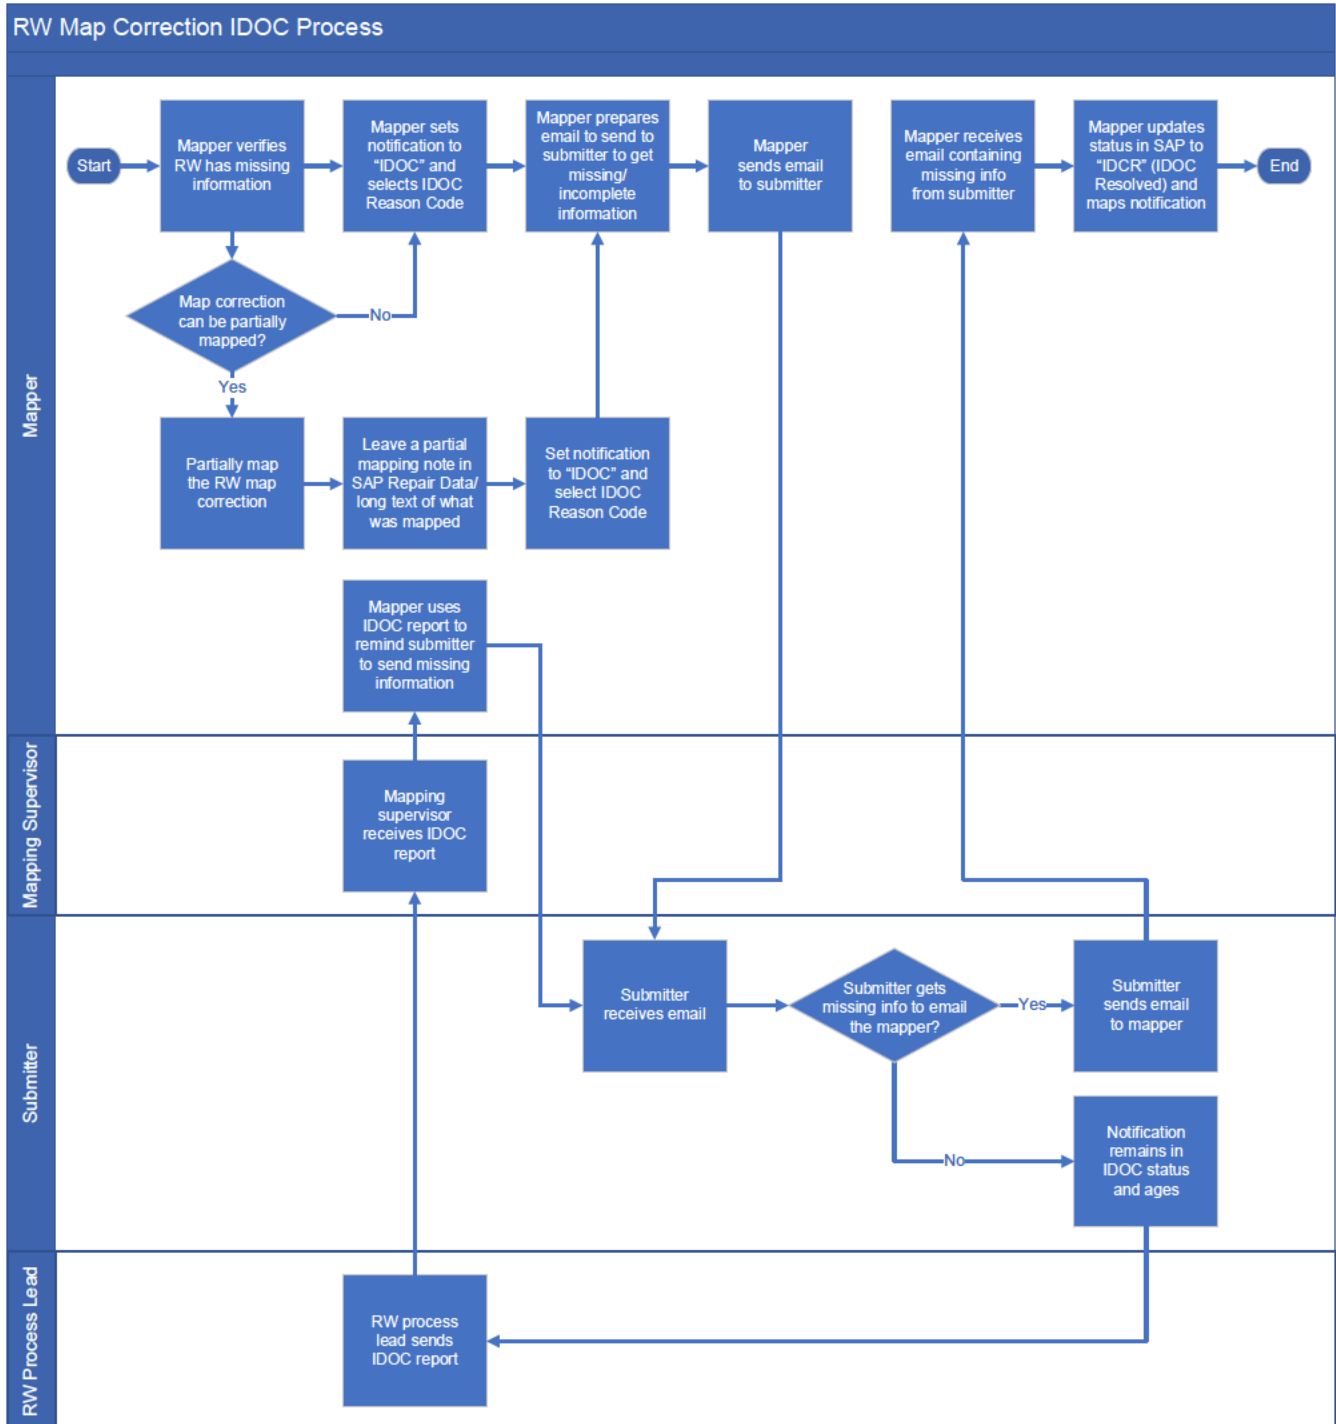

Figure 1. RW Map Correction IDOC Process Flow
- REFER to Figure 1, "RW Map Correction IDOC Process Flow," below, for a visual representation of this process.